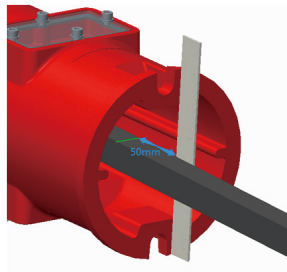

Figure 13
- 2.11 As shown in Figure 13, mark the inside of the indicator body at 50mm from the top, and cut off the stem at the mark. **Note: if the stem is removed from the body in order to cut it to a proper length, please ensure that the stem is fully engaged with the operating nut of the valve during reinstallation.**